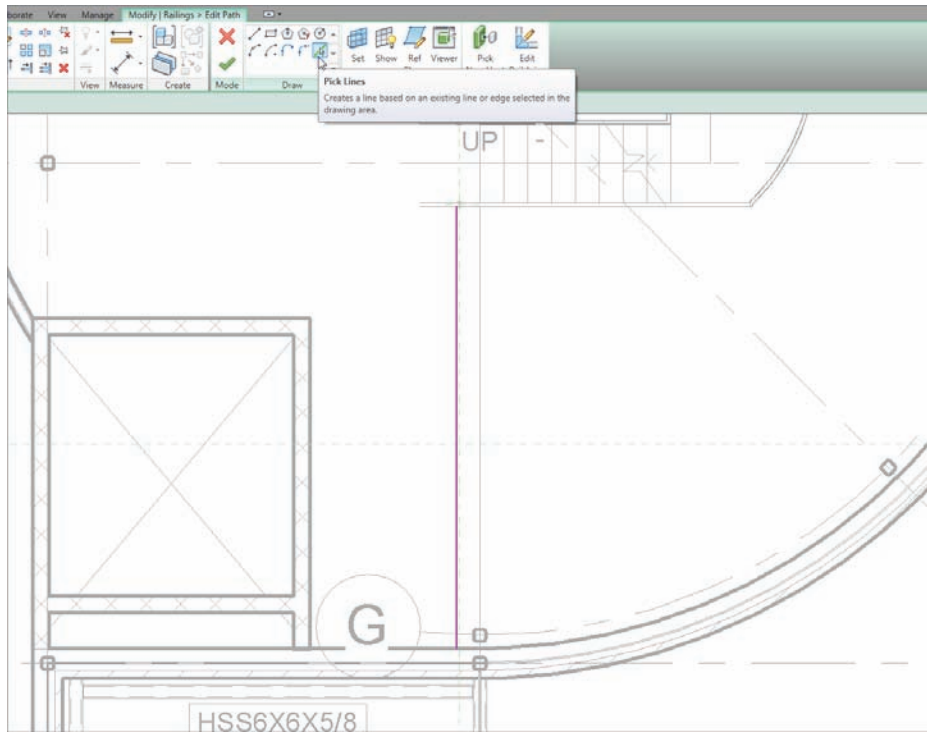

FIGURE 10.24 Adding the first railing segment
6. Pick the front edge of the floor, as shown in Figure 10.24. The sketch line should now be set back from the edge of the landing with a 10 1/2" (262mm) clearance.
7. The magenta line is going to be way too long. Select it and drag the grip down to the point shown in Figure 10.24.
8. At the bottom of the railing, select the grip and drag it out of the wall as well. When you are finished, click the Finish Edit Mode button (see Figure 10.24).